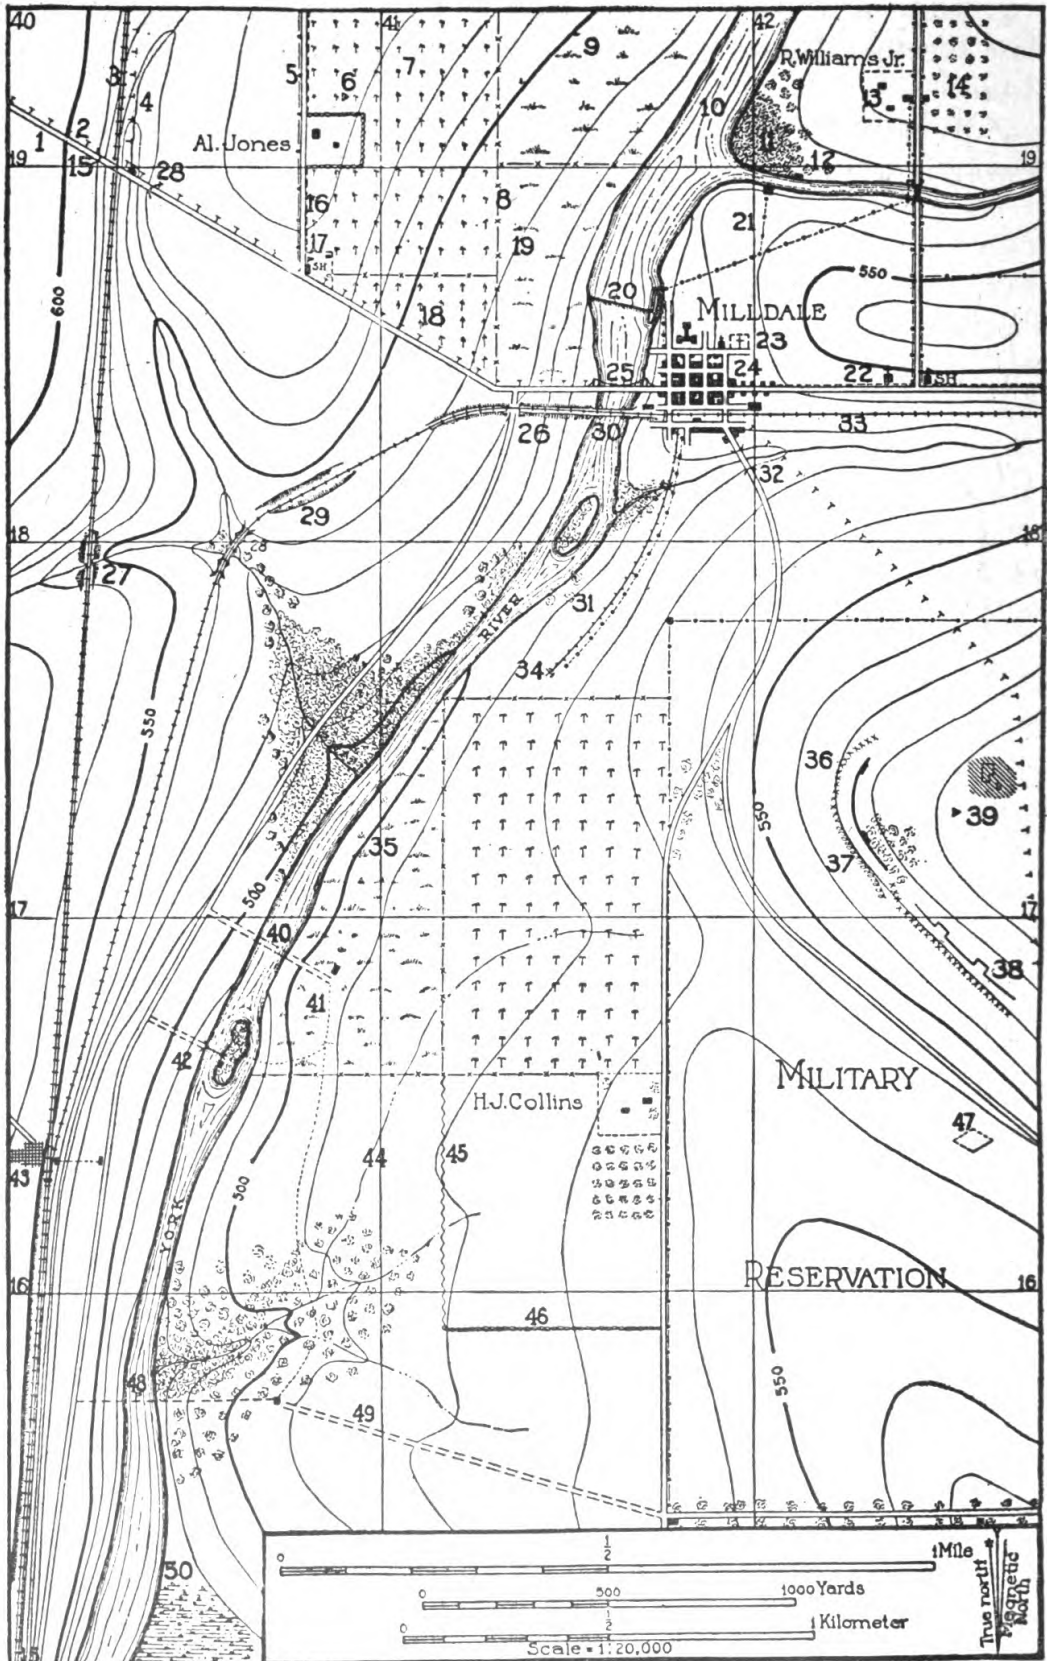

FIGURE 144.—Conventional signs.
that is, one 1,000-yard division of the scale will be 7.2 inches long. This can be divided into 10 equal parts, each of which will represent 100 yards. (See fig. 144 for examples of graphical scales.)
(1) A contour is a horizontal line joining points of equal elevation.
(2) Contours are spread at uniform vertical intervals.
(3) Every contour is a continuous closed curve. (It may not close within the limits of the map.)
(4) There may be any number of separate contours of the same elevation.
(5) A small, closed contour indicates either a hilltop or a depression.
(6) Contours never touch or cross each other except in the case of a vertical or overhanging cliff.
(7) Contours are at right angles to the lines of steepest slope.
(8) The horizontal spacing of contours indicates the degree of slope, steep if they are close together, gentle if they are far apart. They also indicate the kind of slope, uniform, concave, or convex.
(9) Valley contours are usually of V shape, and hill or ridge contours of U shape.
(10) Adjacent contours resemble each other.
**Q.** How is the elevation of a point between two contours determined?—**A.** By its relative distance from the contours on either side. Thus, in figure 144, the elevation of the number "46" is about 527 feet.